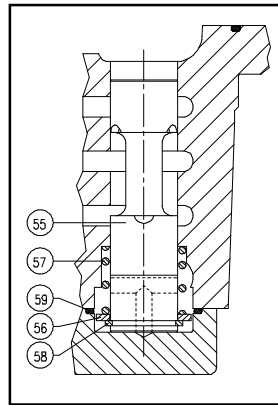

Figure 12, Code "2W"
- 1.5.9 **2W figure 12 only.** Remove internal spool and spring, item 71, from spool valve assembly.
- 1.5.12 **2W figure 12 only.** Remove seal ring, item 54, and seal, item 60, from cover or brake housing.